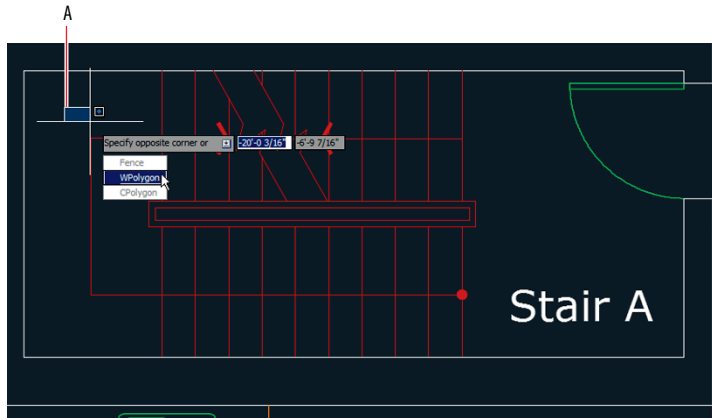

FIGURE 4.5 Selecting WPolygon selection mode from the dynamic input menu
1. Click point A, as shown in Figure 4.5. Press the down-arrow key to expand the dynamic input menu on screen. Select WPolygon.